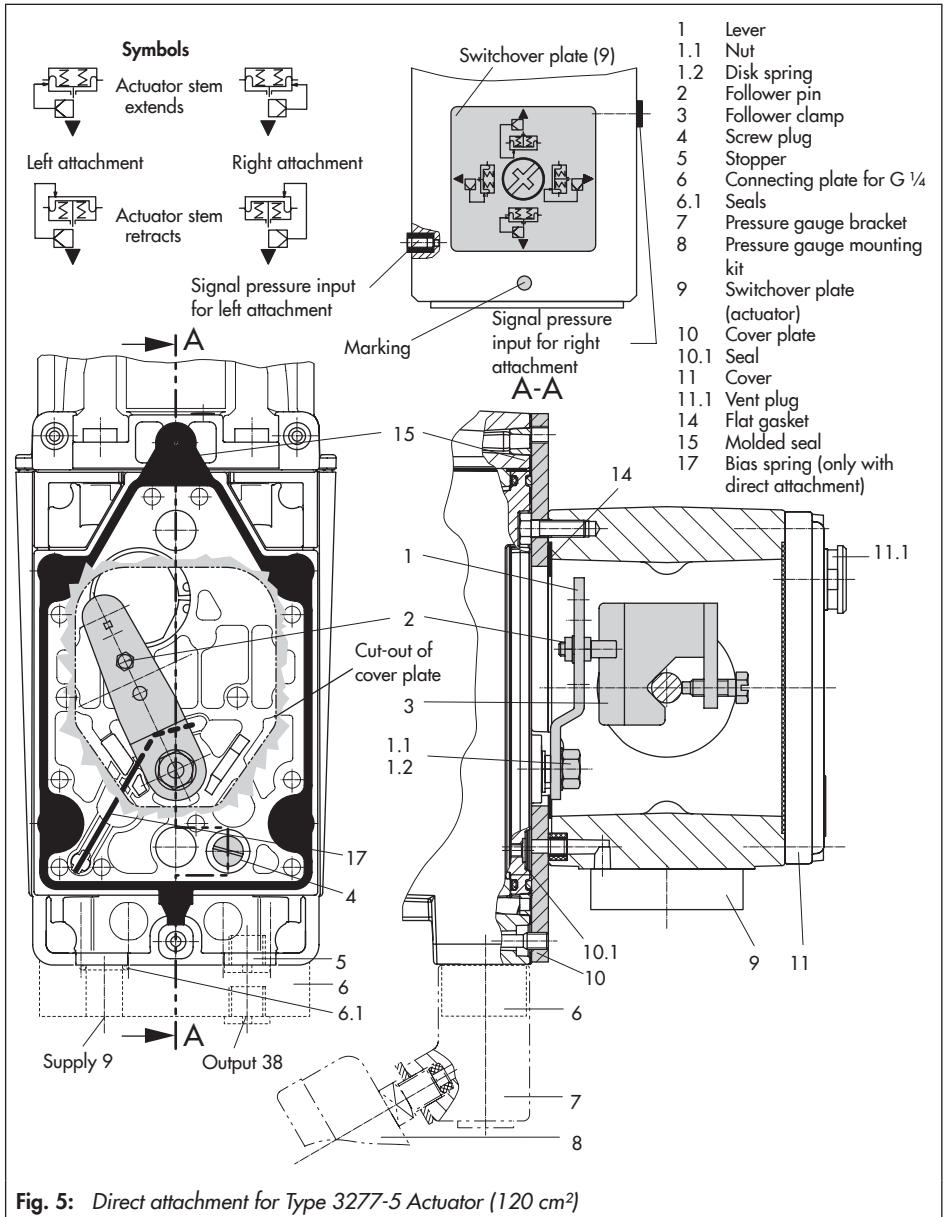

Fig. 5: Direct attachment for Type 3277-5 Actuator (120 cm²)
1. Refer to Fig. 5 to select the symbol to match the required fail-safe position and how the positioner is attached:
4. Remove screw plug (4) on the back of the positioner and seal the signal pressure output (38) at the positioner (or at the pressure gauge bracket (7) or connecting plate (6)) with the stopper (5) included in the accessories.
5. Place follower clamp (3) on the actuator stem, align it and screw tight so that the mounting screw is located in the groove of the actuator stem.
6. Mount cover plate (10) with narrow side of the cut-out (Fig. 5, on the left) pointing towards the signal pressure connection. Make sure that the flat gasket (14) points towards the actuator yoke.
7. **15 mm travel:** keep the follower pin (2) on the M lever (1) on the back of the positioner in the pin position 35 (delivered state).